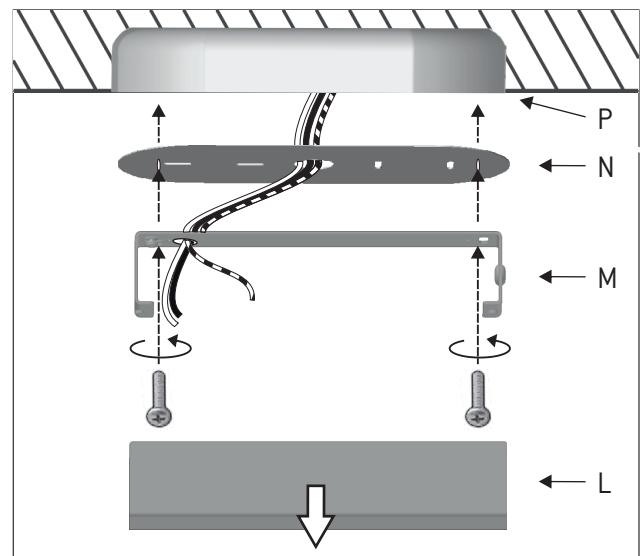

Figure 8
8 - Pull the canopy (L) down with force to remove the mounting bracket (M). Insert the main electrical cable through the central hole of the decorative disk (N) and through the mounting bracket (M). Fix them to the junction box. Figure 8.